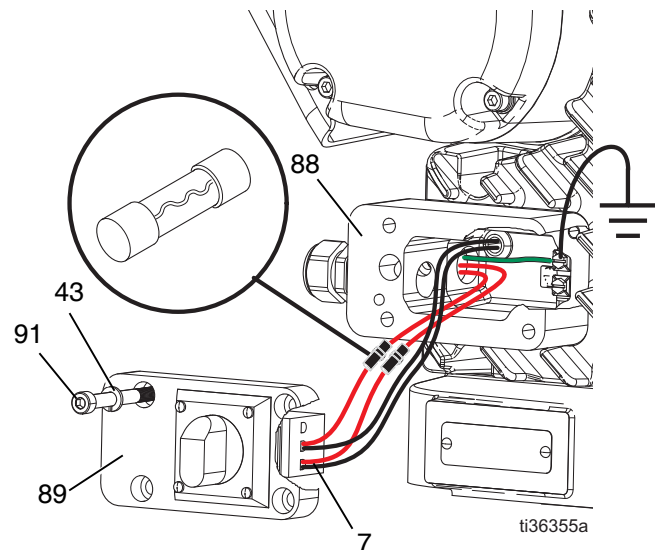

FIG. 9: Fuse Location
3. Remove four screws (91) and remove junction box cover (89) from driver to gain access to the disconnect block (7). See FIG. 9.